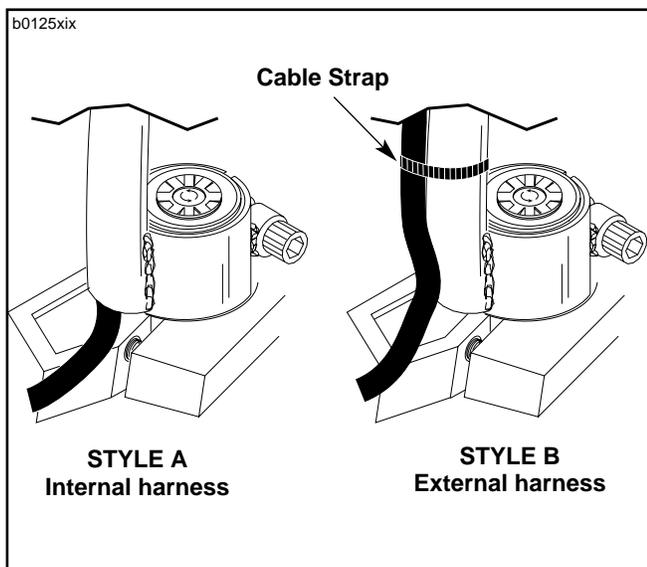

Figure 1. Standard Handlebars
See Figure 1. If your motorcycle's handlebars have an internal wire harness (Style A) go to the next step. If you have an external wire harness (Style B), go to step 10.
See Figure 1. If your motorcycle's handlebars have an internal wire harness (Style A) go to the next step. If you have an external wire harness (Style B), go to step 6.
11. Using a new cable strap, fasten wire harness to outside of handlebar as shown in Figure 1 (Style B).
13. Using a new cable strap, fasten wire harness to outside of handlebar as shown in Figure 1 (Style B).